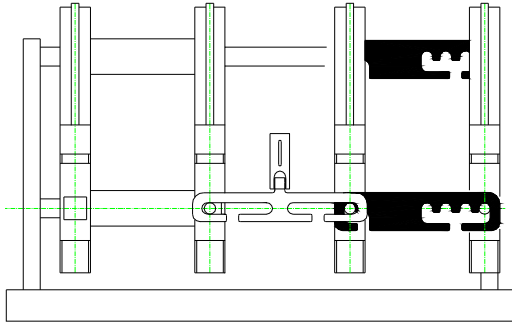

Figure 1. Configuration 2 moveable clamps + 2 fixed clamps
- Two fixed clamps and two moveable clamps Fig. 1